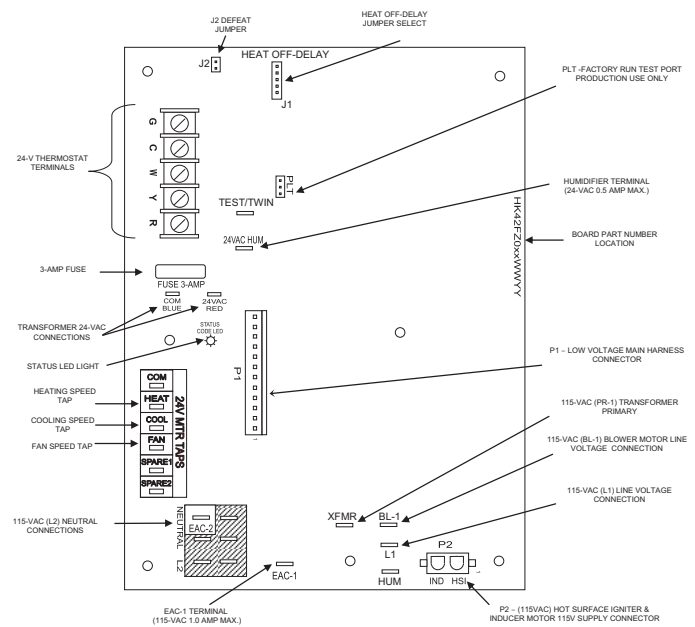

Fig. 20 – Example of Single Stage Furnace Control
1. Jumper R and W thermostat connections to call for heat, see Fig. 20.